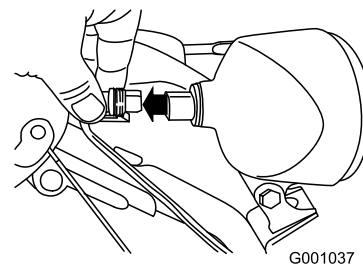

Figure 55
1. Remove the wire connector from the back of the headlight (Figure 55).